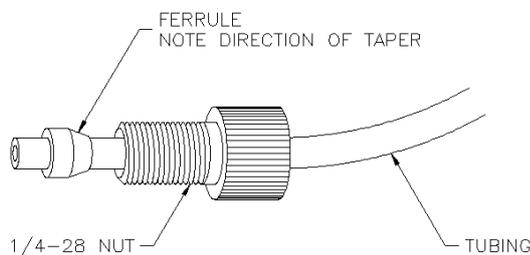

Figure 9. Assembly of 1/4-28 nut, ferrule and tubing for connection to degasser ports.
- Slide a nut and a ferrule in the correct direction onto the tube end (as in Figure 9).